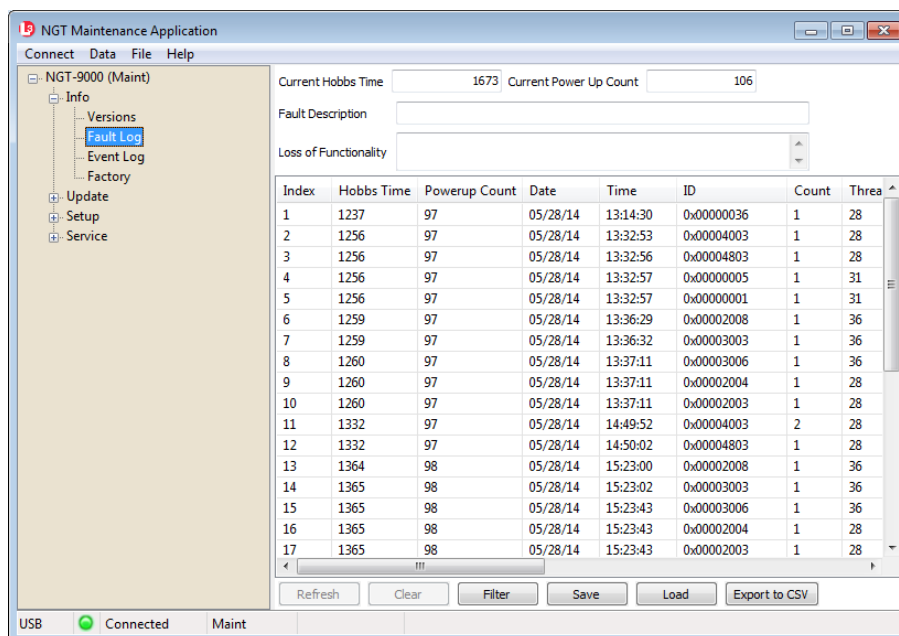

Figure 3-14: Lynx MAT – Info – Fault Log
1. Clear the fault log from the Lynx MAT by selecting Info → Fault Log See Figure 3-14.
1. If needed, clear the fault log from the Lynx MAT by selecting Info → Fault Log and selecting the Clear button. See Figure 3-14.